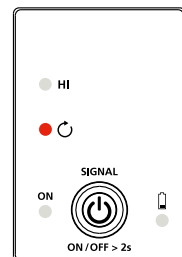

Figure 4.12b: Transmitter indicator showing signal in Loop mode
2. Short press ON/OFF button to select the Loop mode on the Transmitter (LOOP red LED will be ON). The clamp mode generates a boosted 6 kHz signal in order to provide superior tracing results. The screen on the Transmitter should appear as in Figure 4.12b.